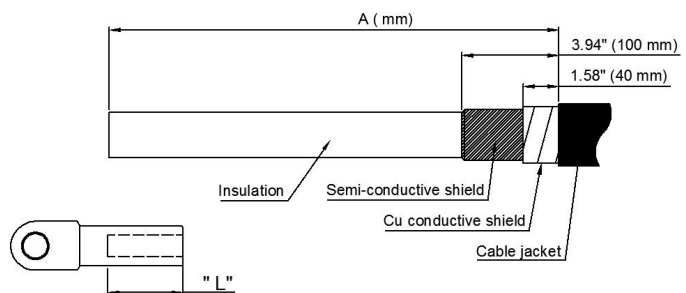

Fig.1
- Prepare cable using dimensions as shown in Fig.1 .